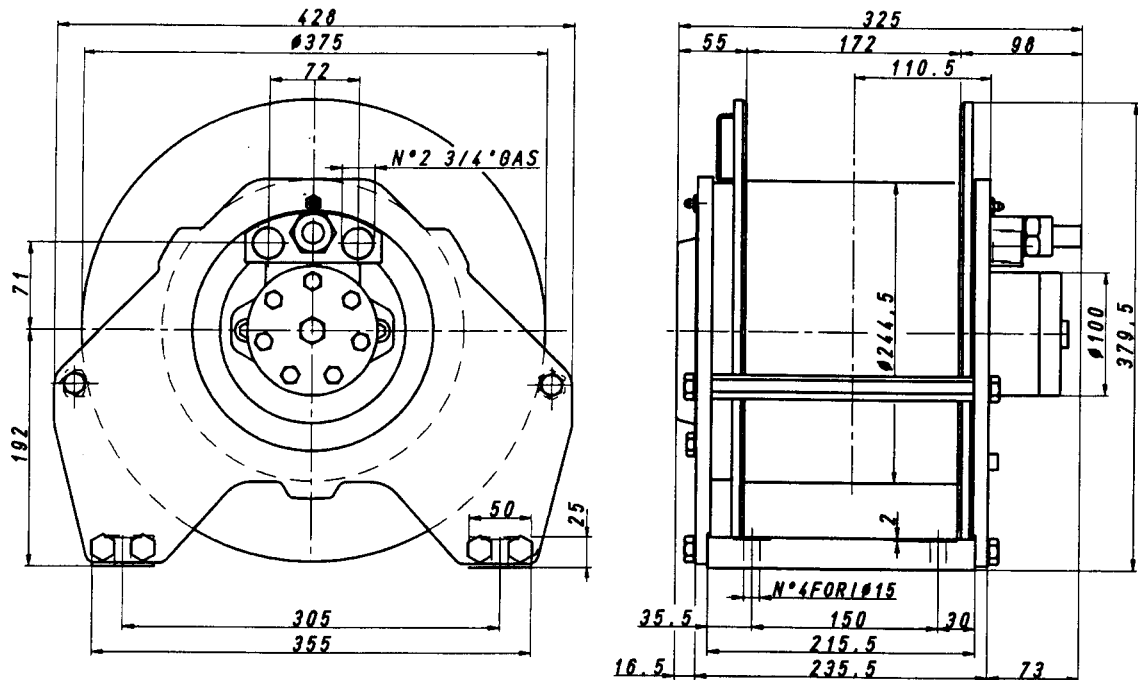

Fig.6-1
6.3 VERRICELLO(Fig. 6.1)
6.3 WINCH(Fig. 6.1)